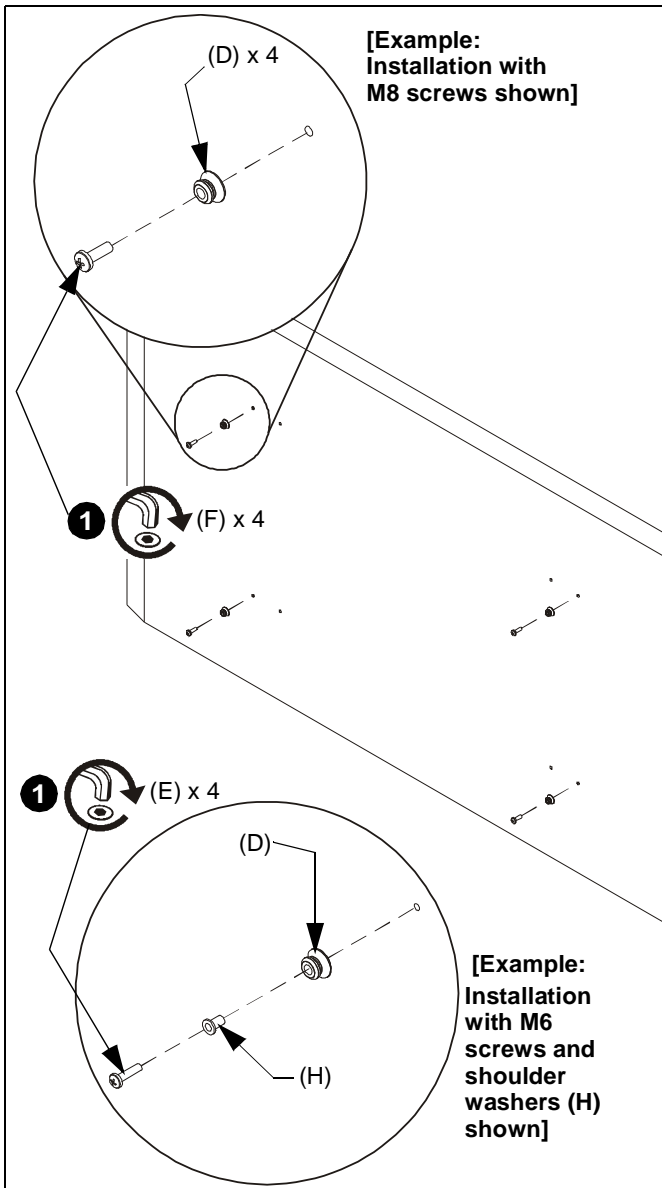

Figure 13
1. Select correct button head screws [M6 x 30mm (E), M8 x 25mm (F) or M8 x 35mm (G)] and attach mounting buttons (D) to back of screen. (See Figure 13)
IMPORTANT ! : If using M6 button head screws (E), also use the shoulder washers (H). (See Figure 13)